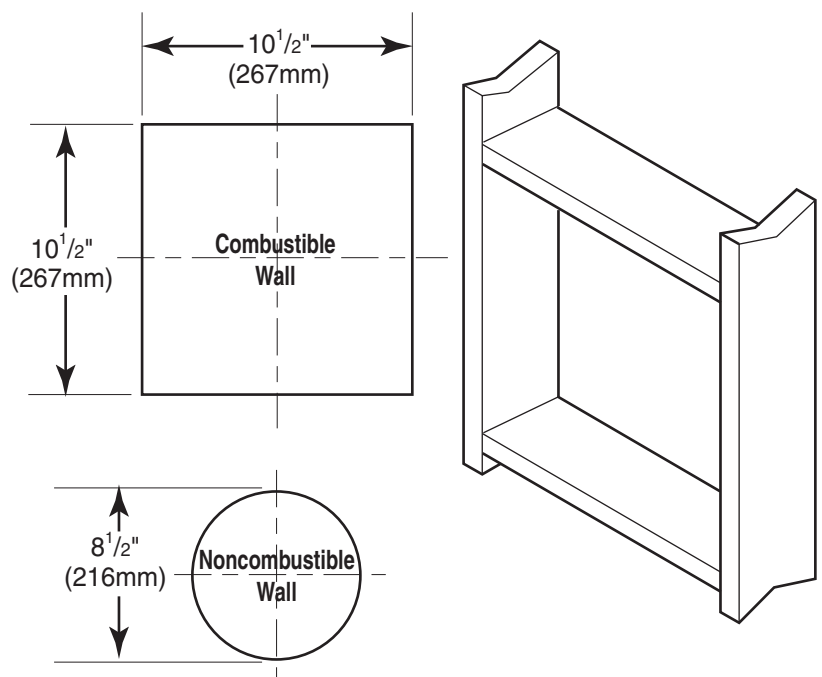

Figure 17 - Exterior Wall Framing Dimensions
Combustible Exterior Walls: Cut a 10½"H x 10½"W square hole through the exterior wall frame. See *Figure 17*.
4. The center of the hole should line up with the center line of the horizontal rigid vent pipe end. Allow ¼" minimum rise per foot. See *Figure 17*.
Combustible Exterior Walls: Cut a 10½"H x 10½"W square hole through the exterior wall frame. See Figure 17.
1. Establish vent hole through the wall. *See Figure 17, page 18.*